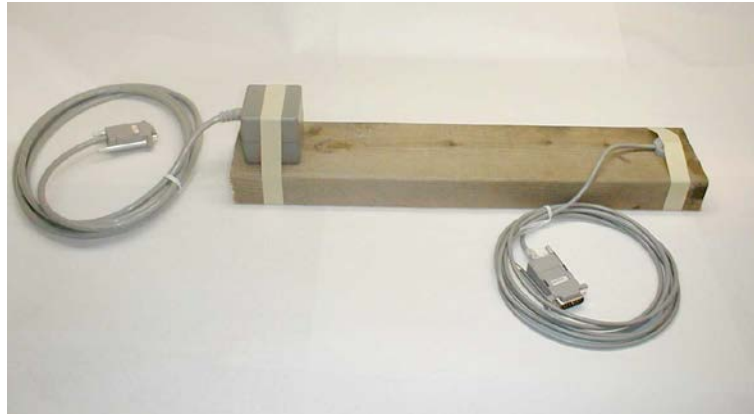

Figure 1-5 Sensor/Source Test Setup
6. For testing purposes, it is convenient to mount both the source and the sensor on a single block of wood (2"x4" or equivalent) about 16 inches apart. Exact placement of the source and sensor is not important for this test; just make sure the cables of both devices are **not routed tightly together** and that they come off opposite ends of the wood mount. See Figure 1-5.